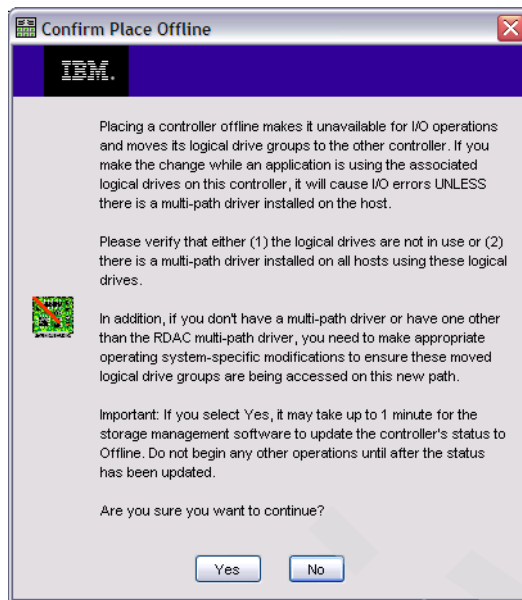

Figure 14-41 Confirm Place offline
2. In the Controller drop-down menu, select the controller. The opposite status to the controller's current status will be activated. Click **OK** to change the status. Read the warning in the confirmation window (Figure 14-41) and click **Yes** to proceed.